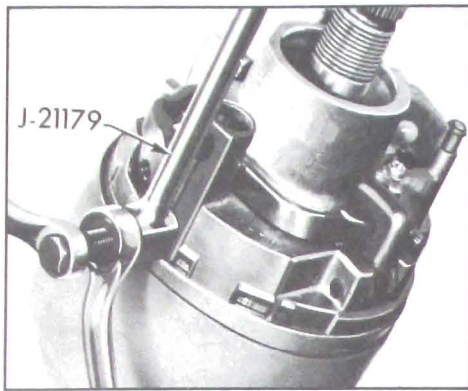

Figure 8-78—Removing Pivot Pin
10. Remove the two pivot pins with Remover J-21179. See Figure 8-78. Thread stud of J-21179 into pin. Hold stud and turn nut to remove pin.